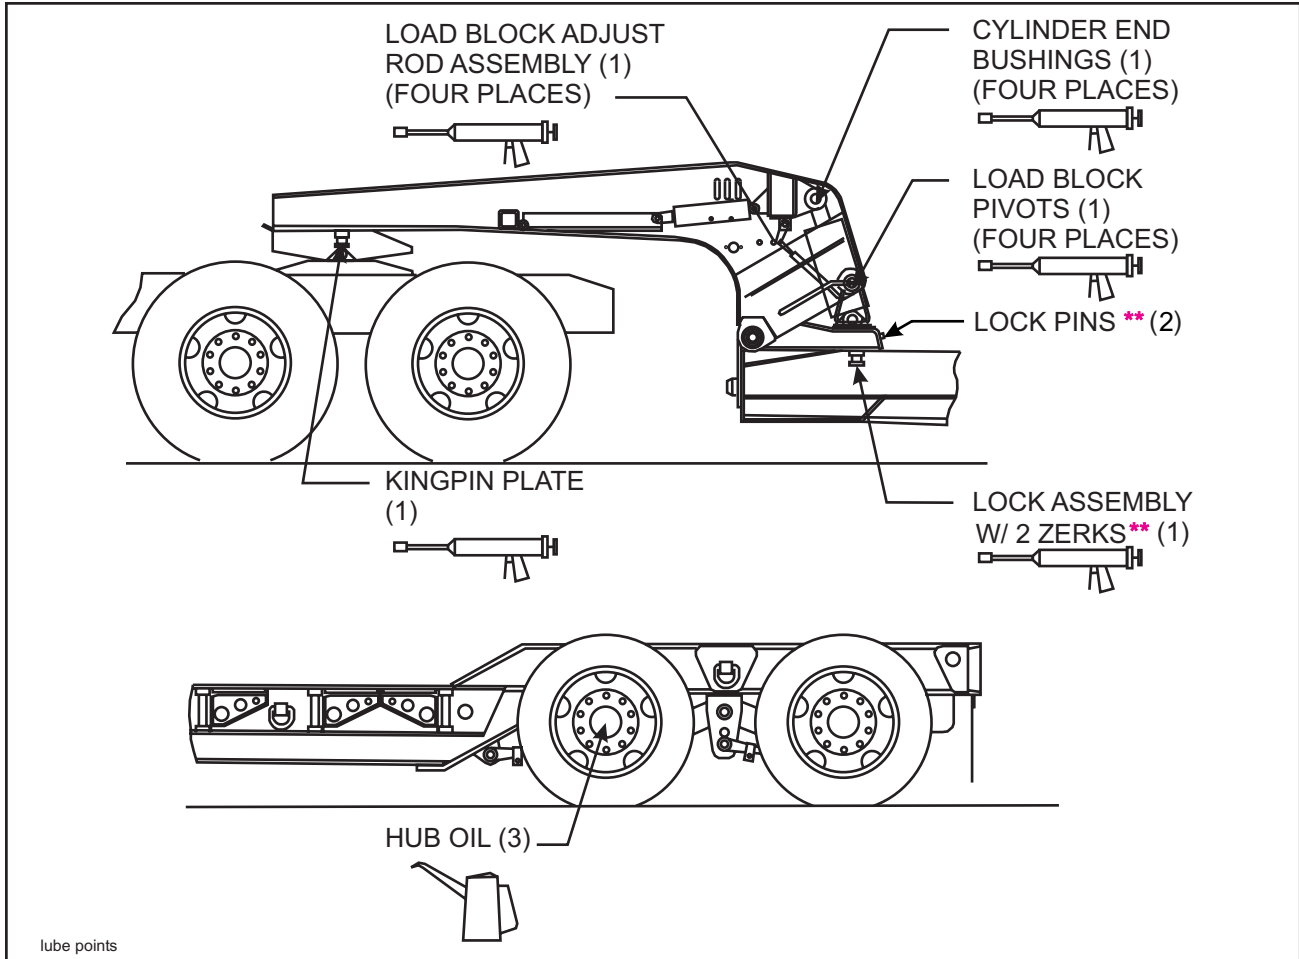

Figure 4-1 Lubrication Points
**Figure 4-1 and Tables 4-1 and 4-2** detail lubrication points and intervals, method of application, and lubricant required, and illustrate the location of each part to be lubricated. During inspections of the trailer, if lubricants are found to be fouled with dirt or sand, those parts should be cleaned with paint thinner, dried, and relubricated immediately. Dirt in a lubricant forms an abrasive compound that will wear parts rapidly.